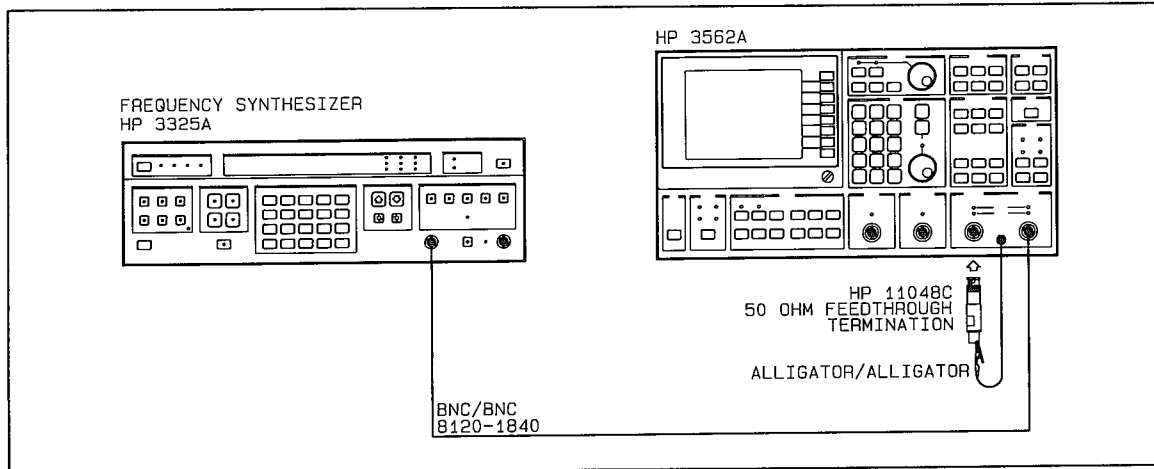

Figure 2-26 Cross Talk Channel 1 Test Setup
A. Connect the test instruments as shown in figure 2-26. Refer to "Initial Equipment Setup," paragraph 2-20, for unspecified parameters.